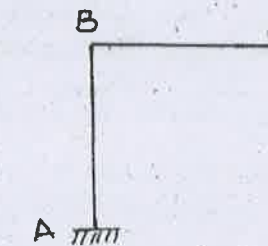

Fig. Q.1
1. Determine the degree of kinematic indeterminacy of the frame shown in Fig. Q.1 and show the same in the frame.